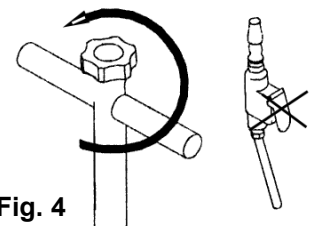

Fig. 4
3.2.1 With the jack in the upright position and the ram completely retracted, open the release knob by turning it three turns counter-clockwise. Refer to Fig. 4.
- 4.2.2 Open the release knob by slowly turning it counterclockwise. Refer to Fig. 4.